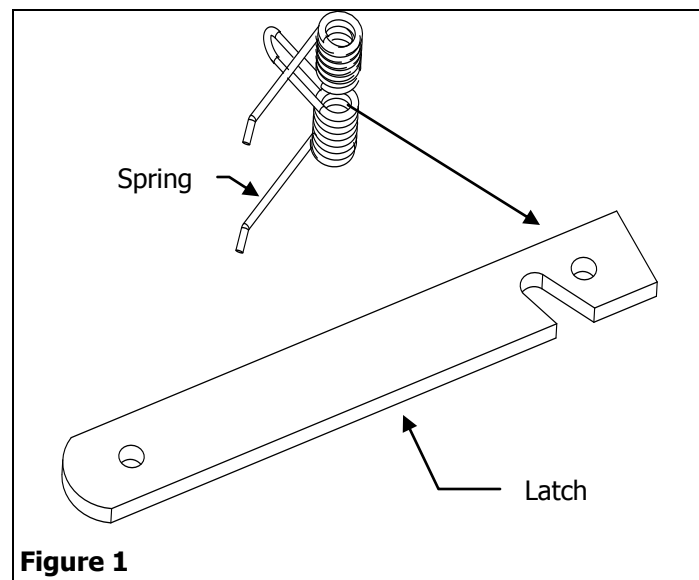

Figure 1
1. Slide Spring over the Latch Handle as shown in Figure 1.